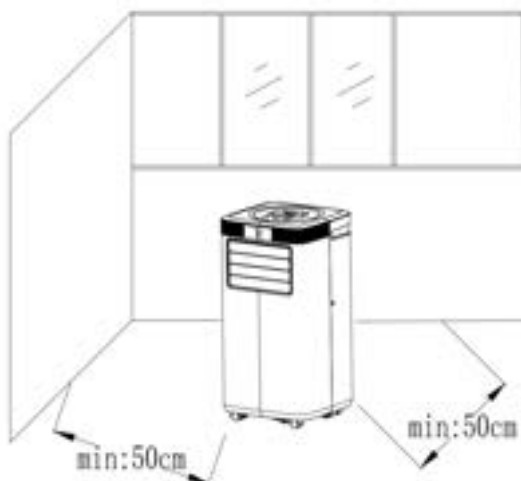

Figure4
1) Move the machine with installed heat pipe and fittings before the window, and the distance between the body and walls or other objects shall be least 50 cm (as shown in Fig.4).